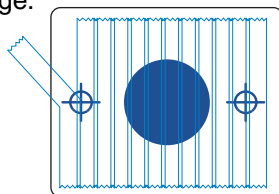

Fig. 3
6. Cover the print with clear packing tape. Overlap the edges to prevent ink transfer to the substrate. (Fig. 3) The print should be visible as if there was nothing covering the image. Do not flash the image. Flashing could cause shrinkage.